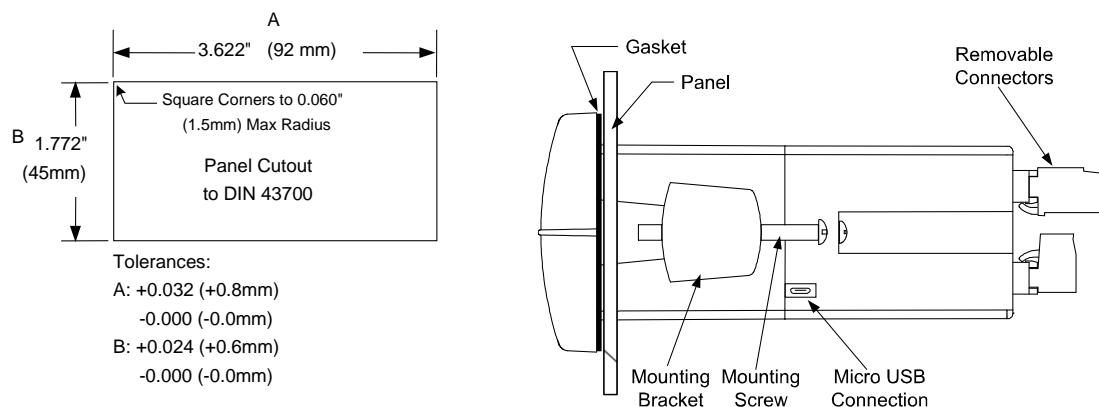

Figure 1. 1/8 DIN Panel Cutout Dimensions & Panel Mounting Details
- Prepare a standard 1/8 DIN panel cutout – 3.622" x 1.772" (92 mm x 45 mm). Refer to Figure 1 for more details.